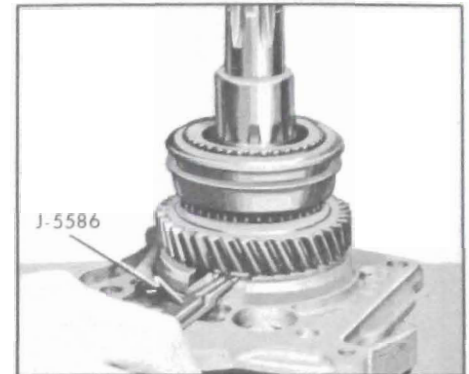

Figure 4-69—Installing Rear Bearing Retainer
11. Install the rear bearing retainer (see Figure 4-69). Spread the snap ring in the plate to allow the snap ring to drop around the rear bearing and press on the end of the mainshaft until the